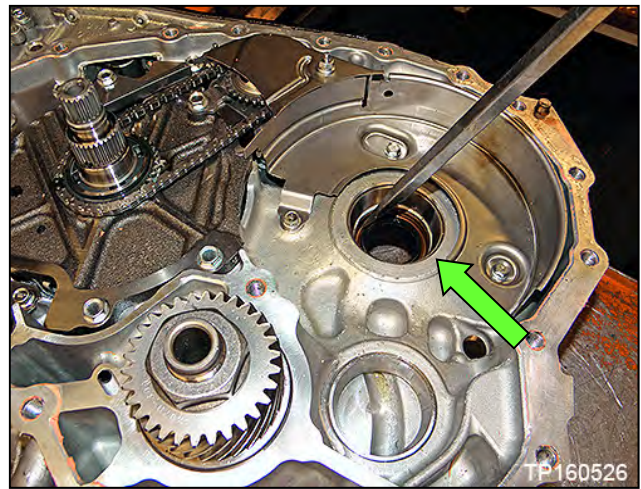

Figure 36
- a. CVT case differential side oil seal (drive shaft seal, Figure 36).